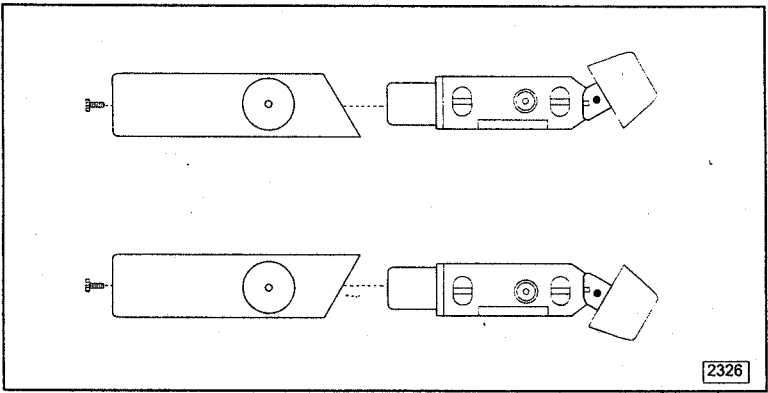

Figure 2. Front Panel Attitudes
2. After choosing the location, fix the attitude of the front panel. It can be tilted up or down as illustrated in Figure 2.